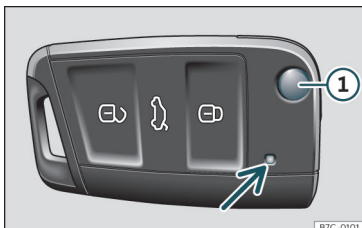

Fig. 108 Vehicle key
When a button on the vehicle key is pressed, the control lamp flashes »»» Fig. 108 (arrow) once briefly, but if the button is held down for a longer period the control lamp flashes several times, such as in convenience opening.
Press button ① »»» Fig. 108 to unlock and unfold the key shaft.
- If the buttons of the vehicle key are pressed >>> Fig. 108 or one of the central locking buttons >>> page 115 is pressed repeatedly in short succession, the central locking briefly disconnects as protection against overloading. The vehicle is then unlocked. Lock it if necessary.